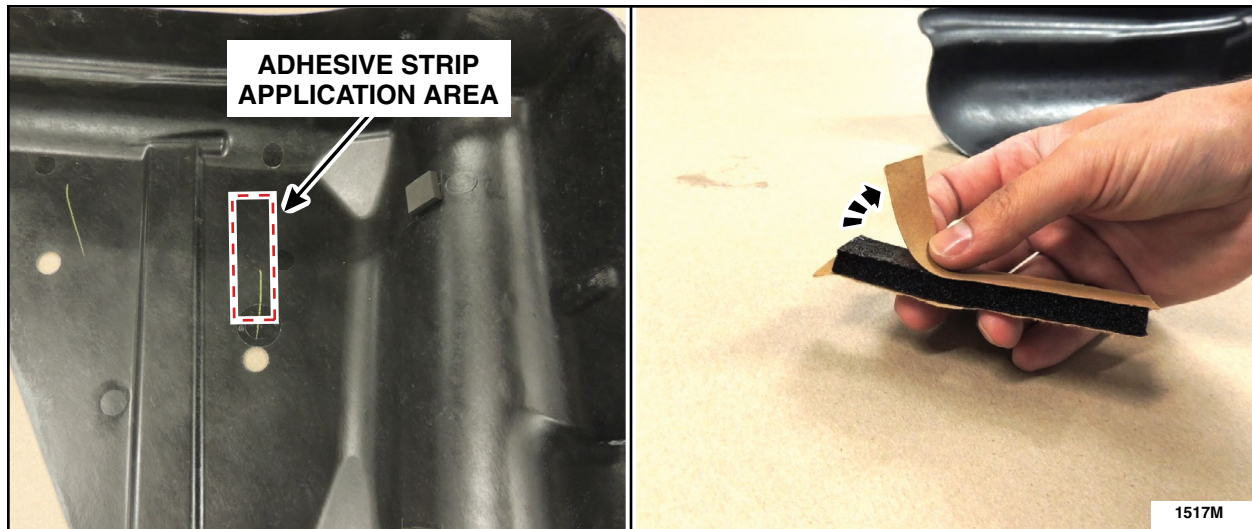

FIGURE 2
4. Locate the adhesive strip application areas on both sides of the new fuel tank shield. Peel off one side of the protective film from each adhesive strip and apply the strips to the new fuel tank shield. See Figure 2.